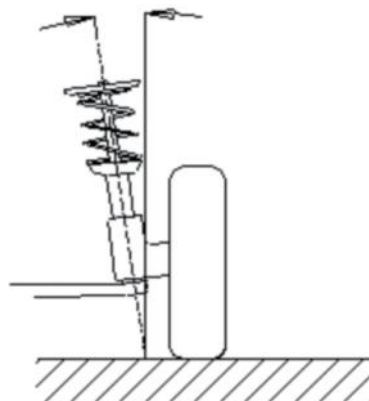

Figure 1.3
- Steering Axle Inclination (SAI) is the angle of steering axis and vertical line (vehicle front view). As show in Figure 1.3. Correct Kingpin Inclination can equalize the loads applied on bearings so that the life of bearings can be prolonged and the controllability of steering is improved. Without the inclination, the controllability of the steering may be affected; further more, the vehicle weight and the ground counterforce may cause significant stress in the axle and finally damage the axle. Correct inclination of king pin is also helpful for the vehicle to restore its straight-ahead position after steering. Kingpin Inclination is determined when the vehicle suspension is designed. It is not service adjustable.